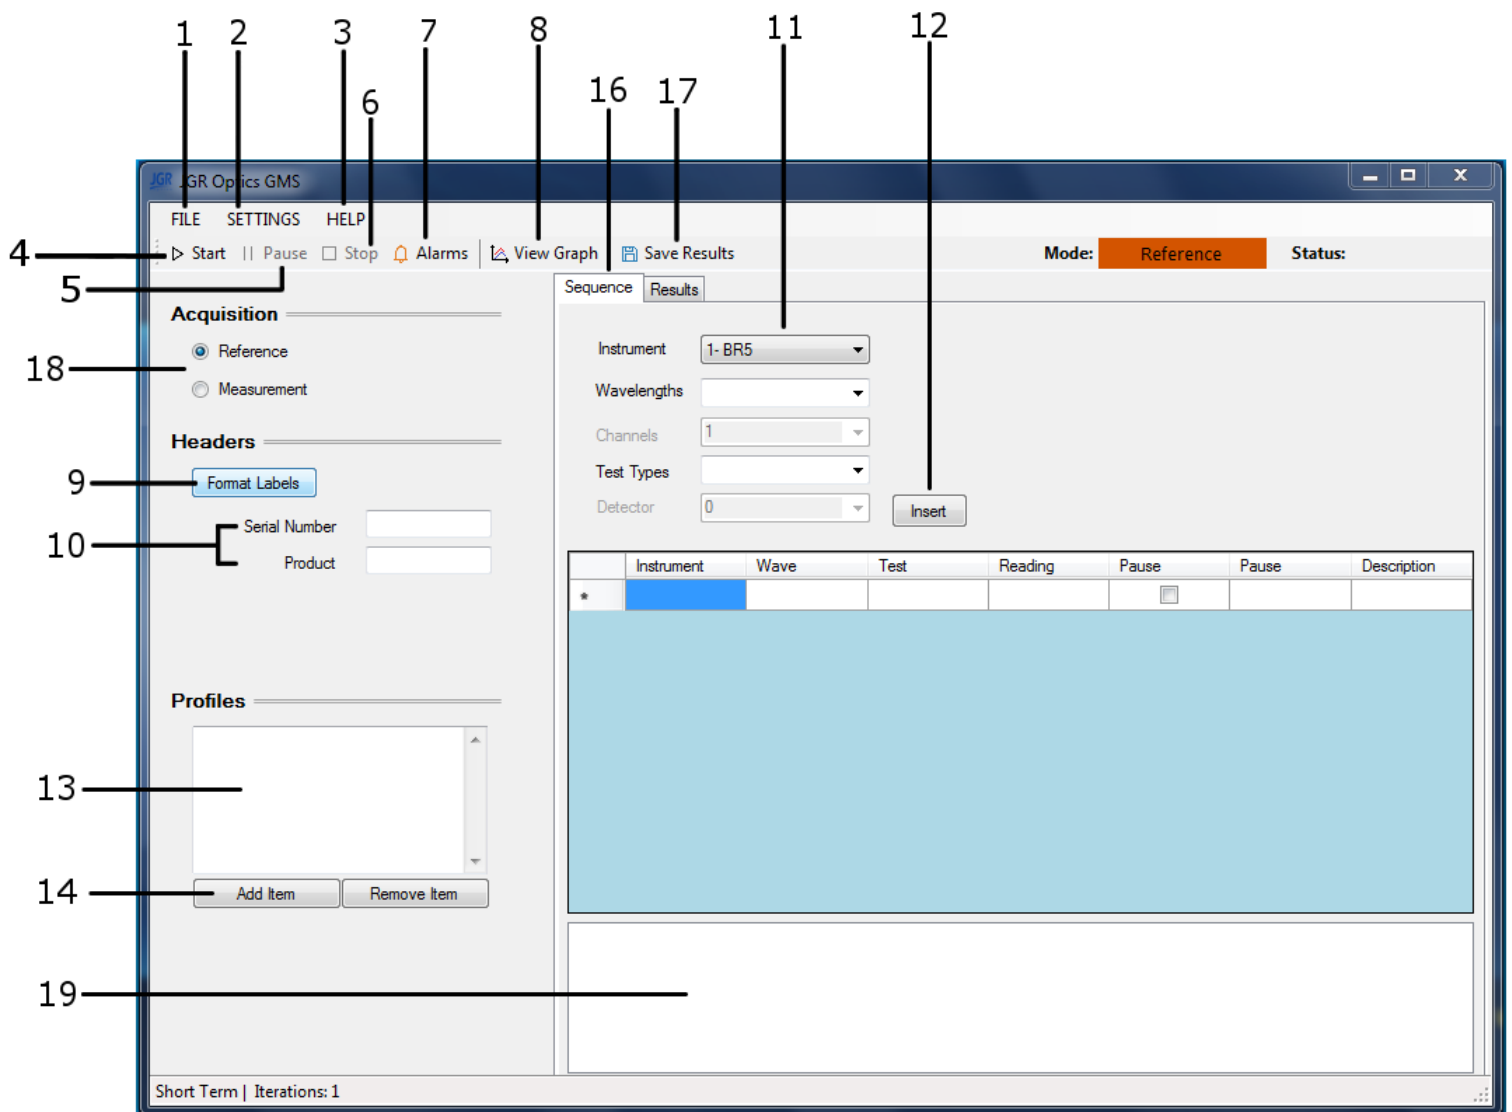

Figure 2.1: The main window of the GMS.
The table above corresponds to Fig. 2.1 and serves as a guide to the Main Screen of the GMS software.
- A reference value must be taken before any measurements. Ensure that Reference is selected under Acquisition (Fig. 2.1 - 18) and press the Start button. Press Retry in the dialogue box if not satisfied with the value, otherwise press OK.